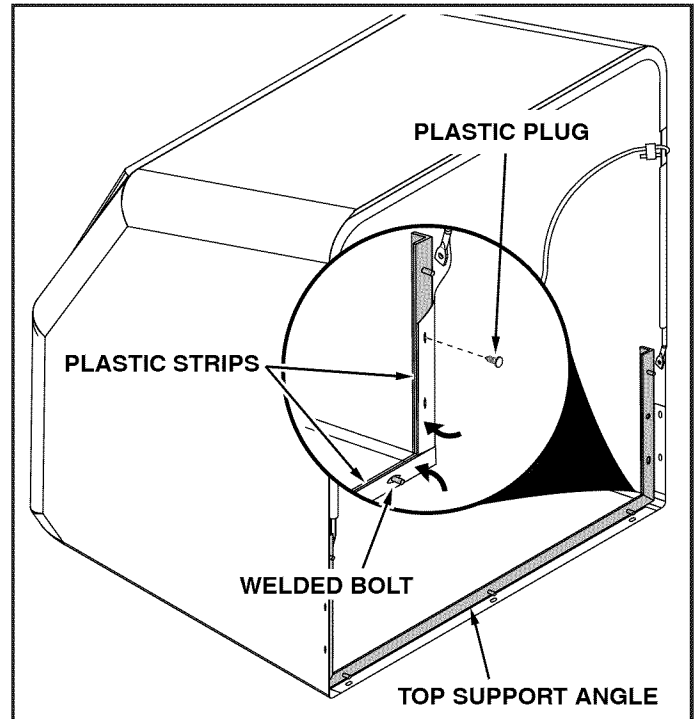

FIGURE 17
- Place the top support angle inside the cart cover. Push the long plastic strip stitched to the bottom of the cover onto three welded bolts in the top support angle. Attach the two short plastic strips to the top support angle using two plastic plugs as shown in figure 17.